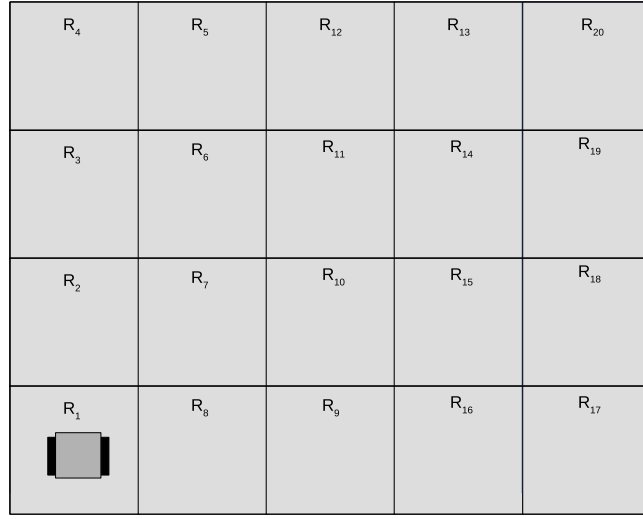

Figure 4: Workspace discretization in rectangular regions
First, we need to provide a discretization of the workspace into regions that will resemble the states of our  $\mathcal{T}$ . The discretization that we consider is  $R = \{R_1, \dots, R_K\}$ , i.e.,  $K$  equally sized rectangular regions, as illustrated in Figure 4. The workspace that the robot operates is a 2D rectangle, centered at  $(0, 0)$ , with dimensions  $3 \times 3\text{m}^2$ .
- a) Provide a graphical illustration of the discretized workspace similar to Figure 4 but use a discretization that yields  $K = 36$  regions. Number the regions analogously to Figure 4. Indicate where and which type(s) of the atomic propositions are true. (2P)